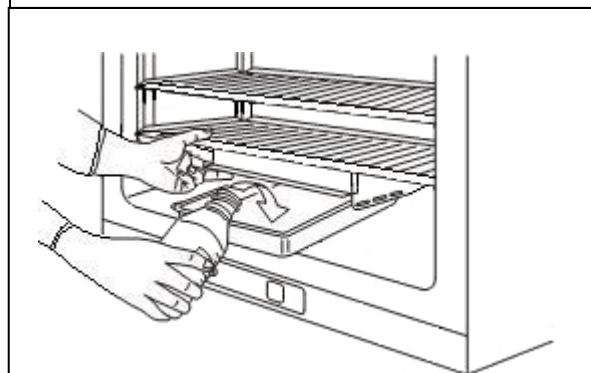

Fig. 3
4. Pull out the humidifying pan. (Fig. 3)
4. To install the side support, confirm the direction of fixing holes as shown in Fig. 3.
5. Return the humidifying pan to the chamber and pour sterile distilled water (approx. 1.5 L, preheated to 37 °C). (Fig. 3)